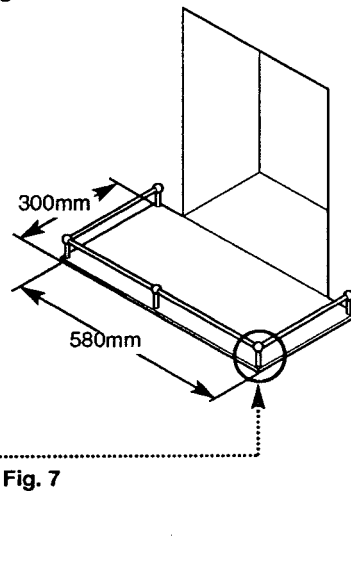

Fig. 7
3. Alternatively, a fender rail or upstanding edge of 50mm (2in) height can be fitted to the periphery of the 13mm (1/2 in) non-combustible hearth (Fig. 7).